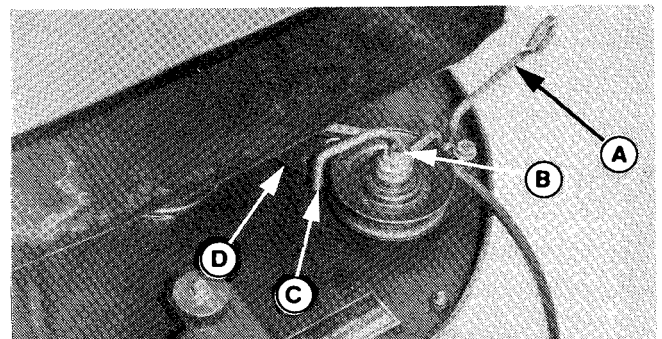
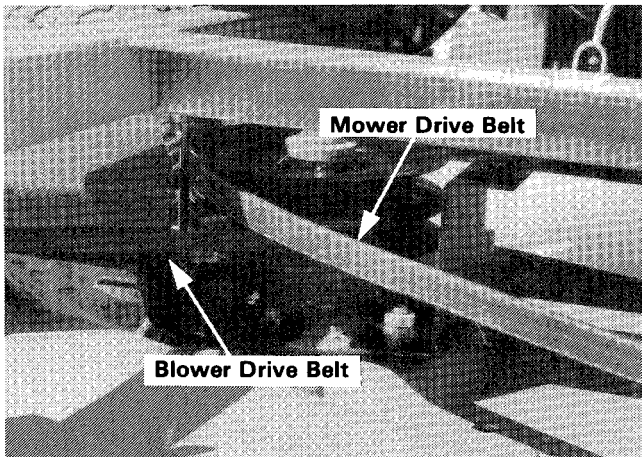

Figure 8. (Housing Viewed Upside Down)
Figure 10.
- The belt retainer (A, figure 8) must be positioned correctly. Loosen the nut (B) and position the leg (C) so it is against the side of the idler arm (D). Then, tighten the nut (B).
17. Push the belt retainer (A, figure 8) to provide slack and install belt onto lower groove of pulley as shown in figure 10. Rotate pulley while installing belt.
19. Place the mower deck drive belt in upper groove of pulley as shown in figure 10. Engage the PTO lever to release the blade brake.